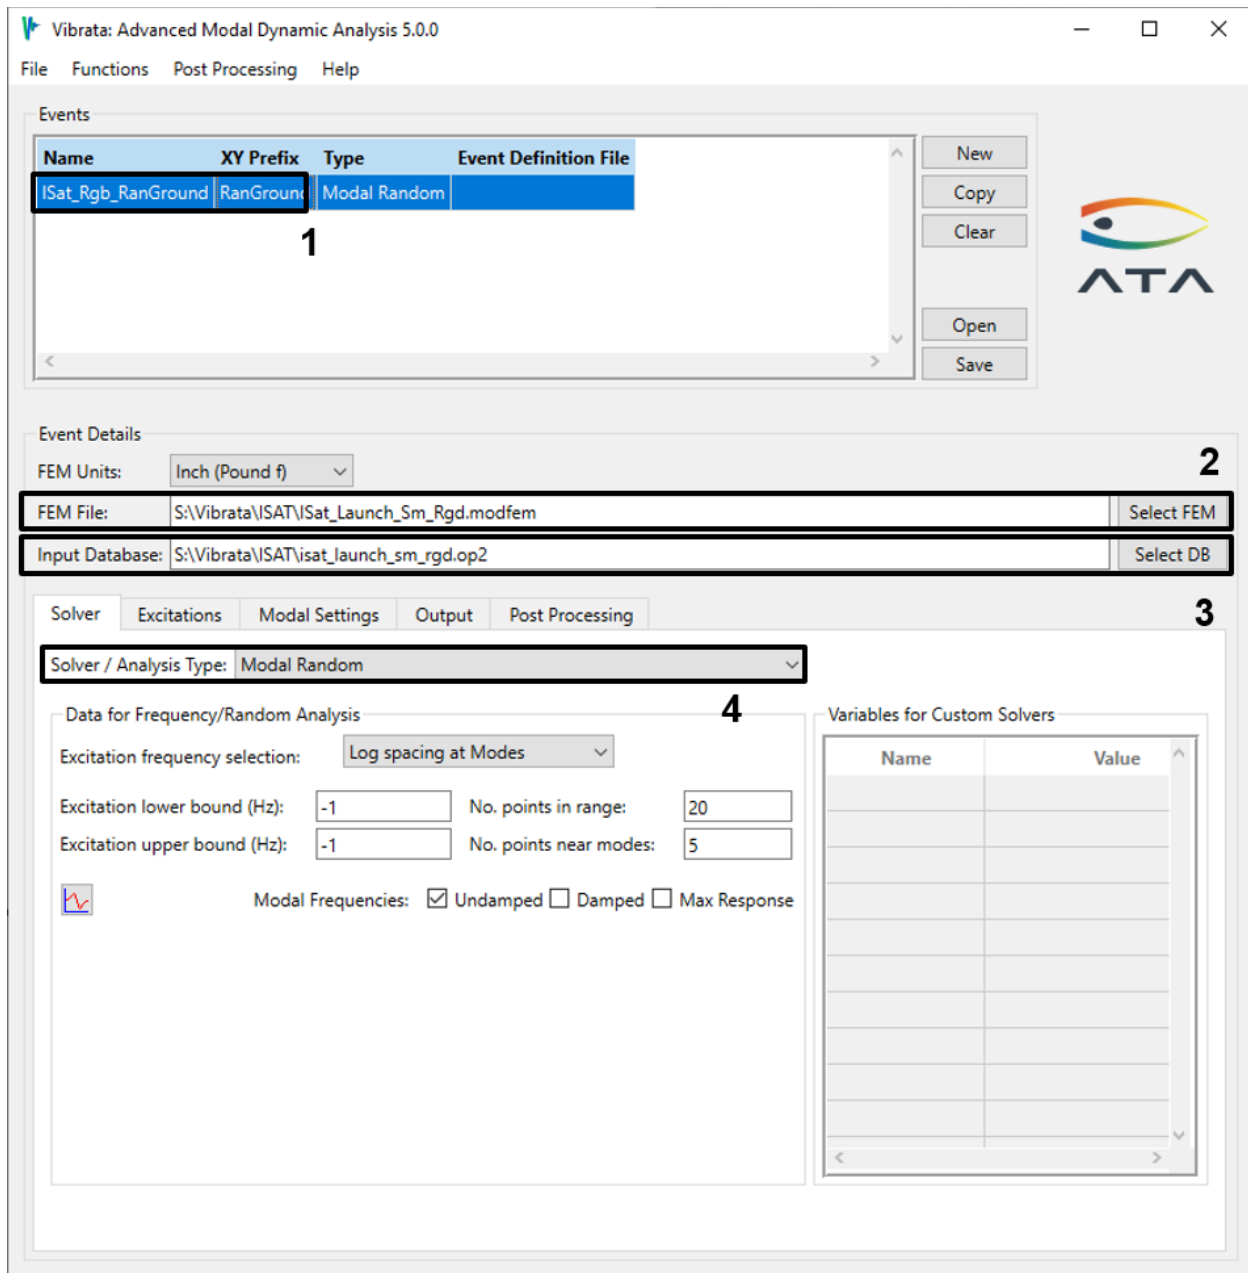

Figure 4-41. Create a new random analysis event.
2. Start a new event using the previously created modfem for the FEM and "isat_launch_sm_rgd.op2" for the results. Set the *Solver/Analysis Type* to *Modal Random*. Be sure to enter a recognizable event name (Figure 4-41).